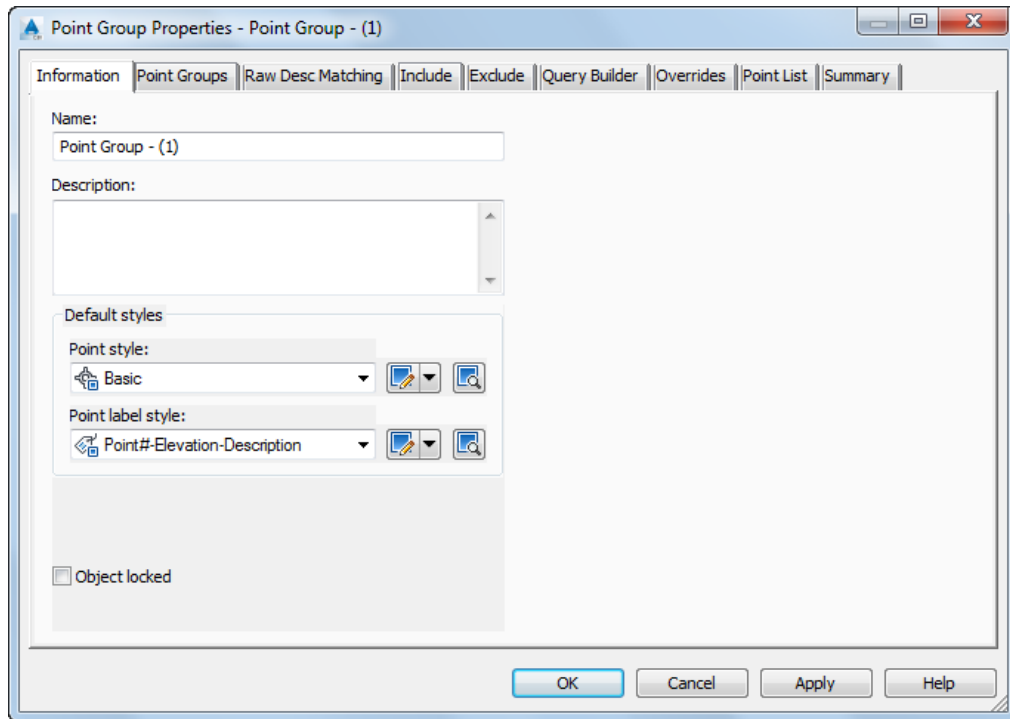

Figure 2-44 The *Point Group Properties - Point Group - (1)* dialog box
Point groups are created based on point properties. You can group points based on their point numbers, elevation, description, and so on. To create a point group, choose the **Create Point Group** tool from the **Create Ground Data** panel; the **Point Group Properties - Point Group - (1)** dialog box will be displayed, as shown in Figure 2-44. The options in the dialog box are discussed next.